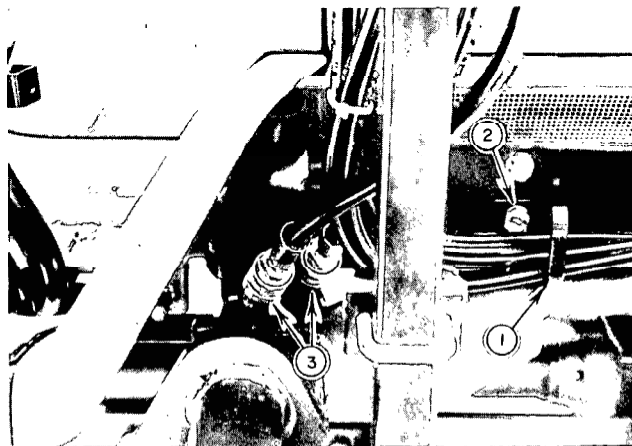

FIGURE 9
- d) Install second hose bracket (fig.9, item 1) in the engine side rail, in the first lower hole rear of the front right attaching bracket, using an M12 x 25mm bolt (fig.9, item 2) and lockwasher if the tractor does not have a loader. If the tractor has a loader, use an M12 x 60mm bolt and lockwasher.
- b) With the engine turned off, connect valve to tractor oil supply (fig.9, item 3).